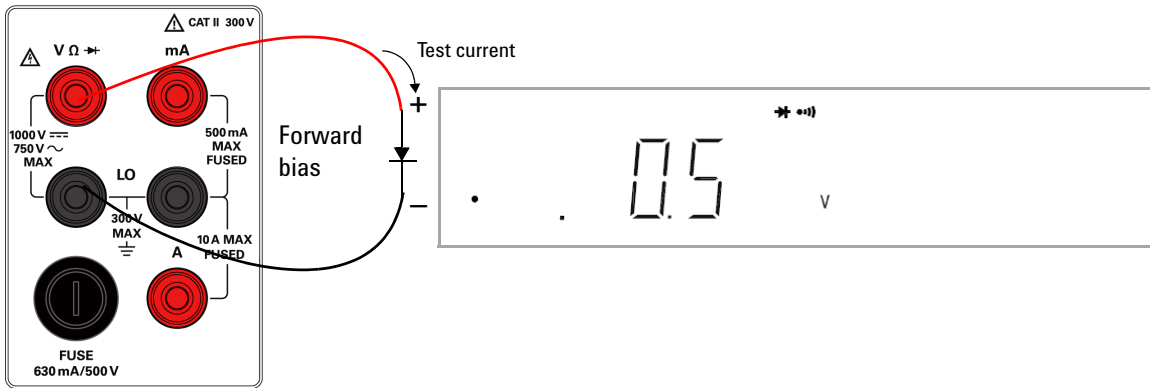

Figure 1-16 Forward-biased diode/continuity test terminal connection and display
- 2 Connect the red and black test leads to the input terminal as shown in Figure 1-16 on page 25.
- 3 Connect the red test lead to the positive terminal (anode) of the diode and the black test lead to the negative terminal (cathode). Refer to Figure 1-16 on page 25.